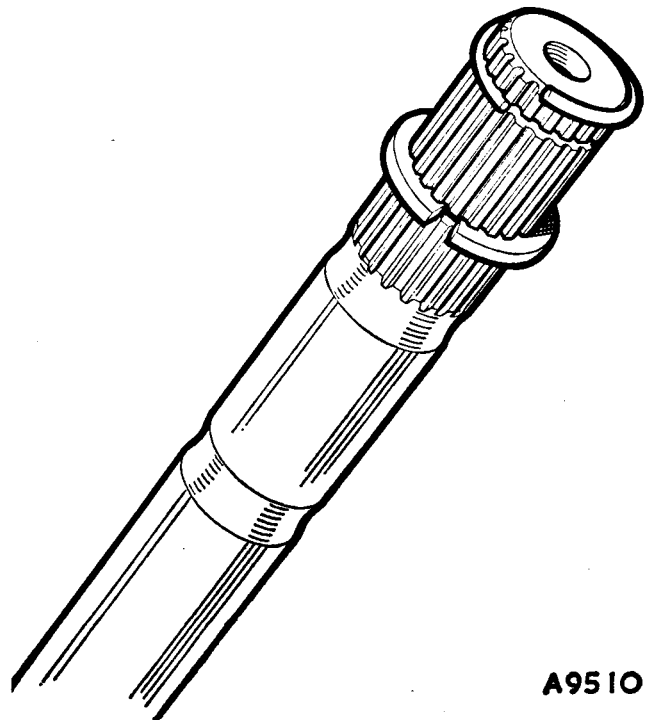

Fig. G.5
24. Replace the round-section spring ring with a new one (Fig. G.5). If replacing the shaft, fit a new circlip.